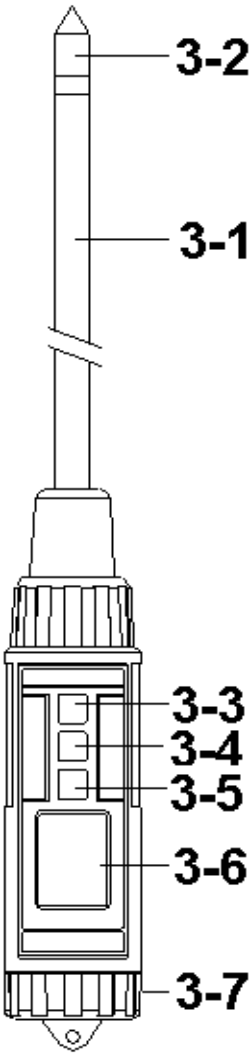

Fig. 1
1) Turn on the meter by pressing the " Power Button " (3-3, Fig. 1) momentarily.
** Press the " Power Button " (3-3, Fig. 1) momentarily again will turn off the meter.*
2) Insert the " Moisture sensing head " (3-2, Fig. 1) into the measured soil.
- * During the measurement, press the " Hold Button " (3-4, Fig. 1) momentarily to hold the measured value. The LCD will show a " HOLD " symbol.
- 1) The data record function records the maximum and minimum readings. Press the " REC Button " (3-5, Fig. 1) momentarily to start the Data Record function, shows " REC " on the display.
- a) Press the " REC Button " (3-5, Fig. 1) momentarily, the " REC MAX " symbol along with the maximum value will appear on the display.
- b) Press the " REC Button " (3-5, Fig. 1) momentarily again, the " REC MIN " symbol along with the minimum value will appear on the display.
- * *When display shows " REC MAX " or " REC MIN ", press the " Hold Button " (3-4, Fig. 1) momentarily will delete the max. (min.) value, the display will show the " REC. " only and execute the memory function continuously.*
- * To change the batteries, open (rotate clockwise direction) the " Battery Cover " (3-7, Fig. 1).
- * Make sure the " Battery cover " (3-7, Fig 1) is secured after changing the batteries.